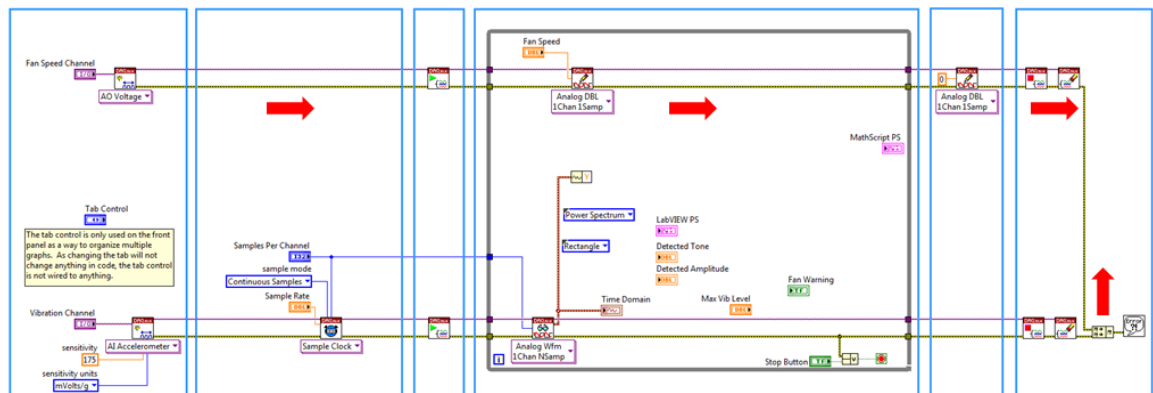

Figure 29. The task and error wire communicate information between each of the VIs in the code.
11. Wire the task and error wire through the code, as seen in Figure 29.